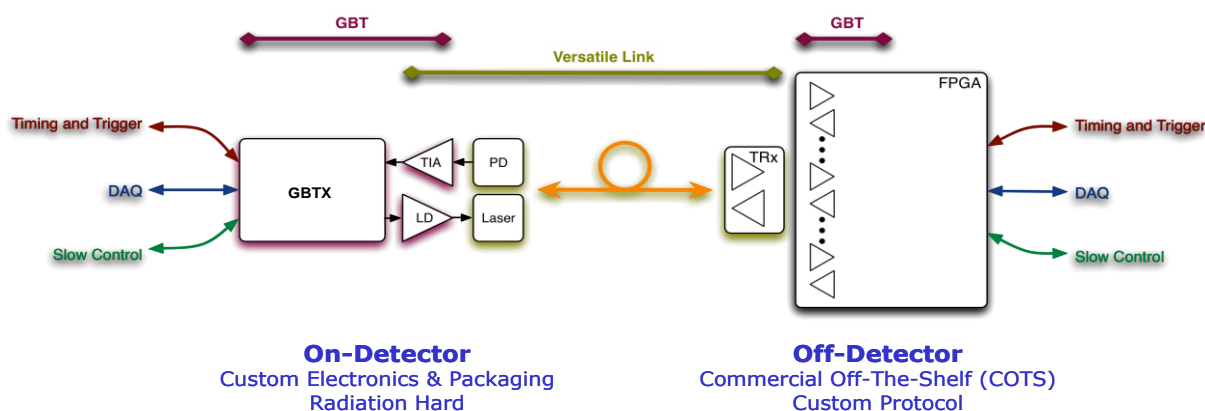

Figure 1: Link architecture with the GBT chip set and the Versatile Link opto-components
Logically the link provides three “distinct” data paths for Timing and Trigger Control (TTC), Data Acquisition (DAQ) and Slow Control (SC) information. In practice, the three logical paths do not need to be physically separated and are merged on a single optical link as indicated in Figure 1. The aim of such architecture is to allow a single bidirectional link to be used simultaneously for data readout, trigger data, timing control distribution, and experiment slow control and monitoring. This link establishes a point-to-point, optical, bidirectional (two fibres), constant latency connection that can function with very high reliability in the harsh radiation environment typical of high energy physics experiments at LHC.